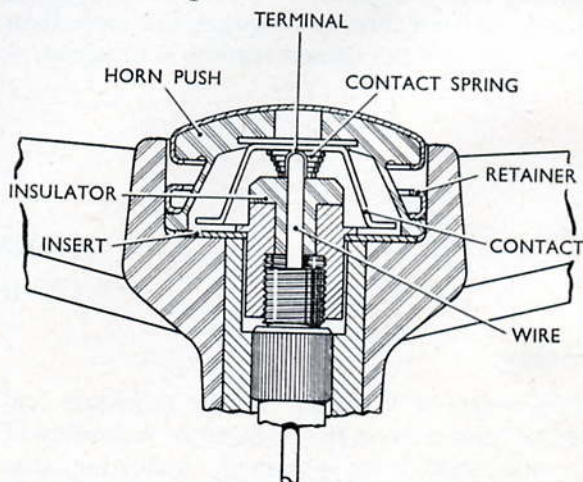

Fig. S.15. Sectioned view of horn push
2. Prise out the horn push and retainer and remove the push contact spring (Fig. S.15).